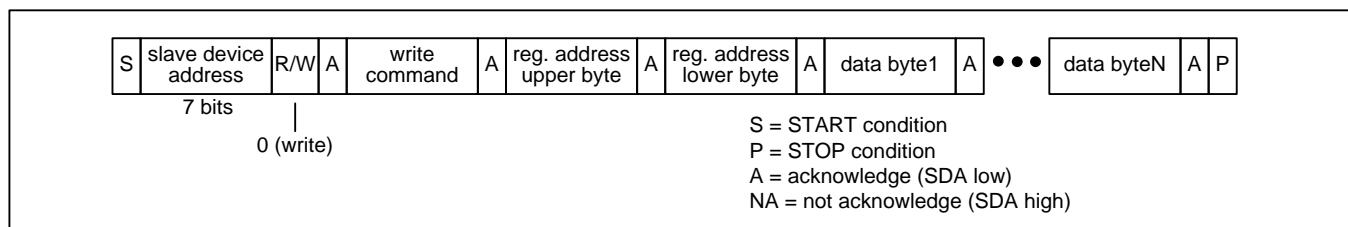

Figure 11 – I²C Register Write Transaction Functional Timing
Register Write Transactions. The device registers are accessible when EESSEL=0. The bus master does an I²C write to the device. The first three bytes of this transaction are the SPI Write command (see Table 3), the upper byte of the register address, and the lower byte of the register address. Subsequent bytes are data bytes to be written. After each data byte is received, the device writes the byte to the write address and then increments the write address. The bus master terminates the write with a STOP condition (P). See Figure 11.